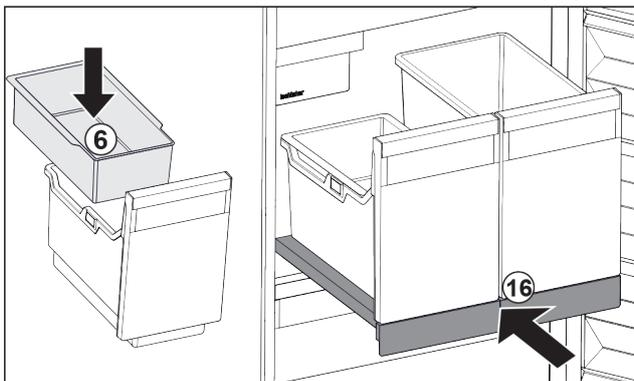

Fig. 48
- ▶ Insert hang-on tray Fig. 48 (6) for ice cubes.
- ▶ Slide in the pull-out board with (IceTower) container. Fig. 48 (16)